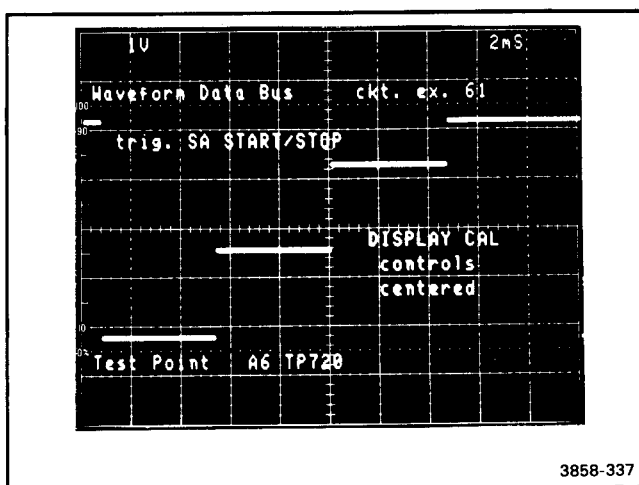

Figure 3-17. Waveform produced by Waveform Data Bus test.
33) Waveform Data Bus (61). If this test fails, place the Display Board on an extender and run circuit exercise 61. Use an oscilloscope to troubleshoot the Waveform Data Bus. Waveform Figure 3-17 is a typical output of this test. The SA Start/Stop line provides a stable oscilloscope trigger while using this test for troubleshooting.